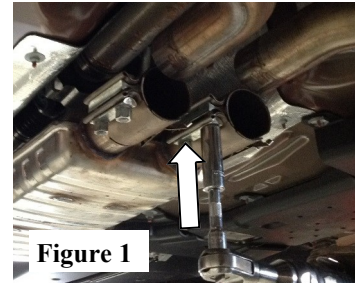

Figure 1
140590, 140591, 140589, 60561 only: Loosen (2) factory band clamps on the front factory mid-muffler. (See Fig.1)